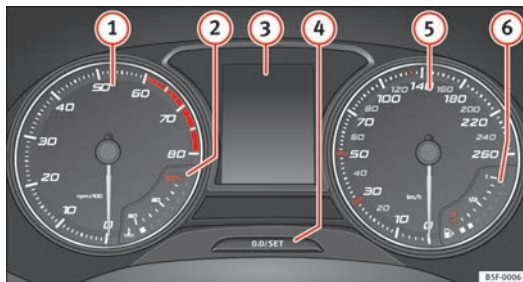

Fig. 36 Instrument panel, on dash panel
Details of the instruments ⇒ Fig. 36:
A variety of information can be viewed on the instrument panel display ⇒ Fig. 36 ③, depending on the vehicle equipment:
- Briefly press the button ⇒ Fig. 36  to reset the trip recorder to 0.
- To set the time, keep the button ⇒ Fig. 36  pressed for more than 3 seconds to select the hour or minute display.
Hold the button ⇒ Fig. 36  down for more than 15 seconds to display the identifying letters of the vehicle engine (MKB). To do this, the ignition must be switched on and the engine switched off.
⇒ Fig. 36 (4).